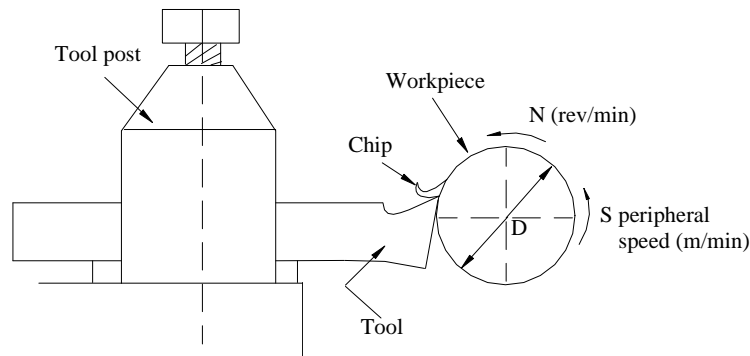

Figure 1: Cutting speed and peripheral speed of work piece in turning operation
where the diameter of the job (D) is in mm and to get speed in m/min conversion factor of 1000 mm/m is used. The material moves past the stationary cutting tool with this peripheral speed, as shown in Figure 1. Hence, the cutting speed is: